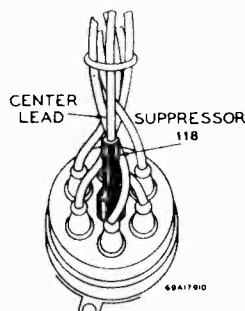

FIGURE 3.
- Install distributor suppressor as shown in Figure 3.